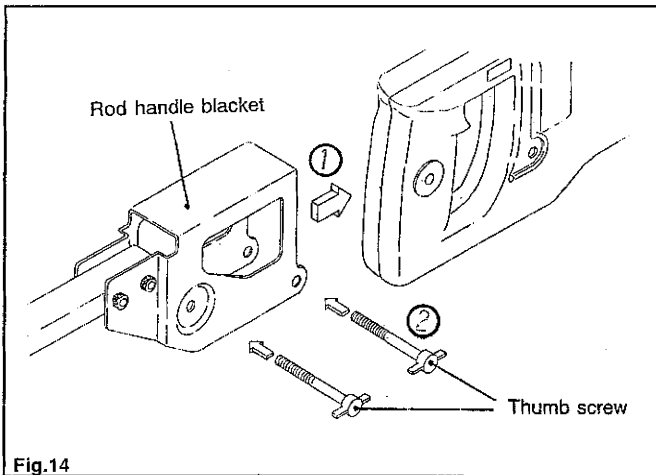

Fig.14
17. Attaching the rod handle (Fig. 14)